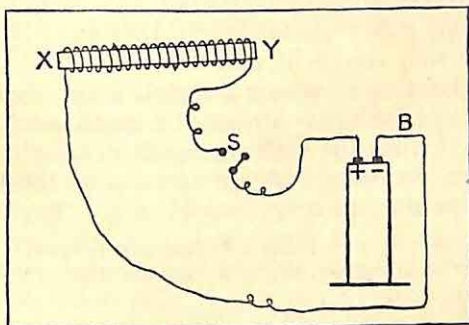

Fig. 39
45. Wind about 12 in. of very thin insulated copper wire round a piece of soft iron XY as in fig. 39. (An iron nail will do.)
Use a compass needle and the same apparatus as in experiment 45, fig. 39.